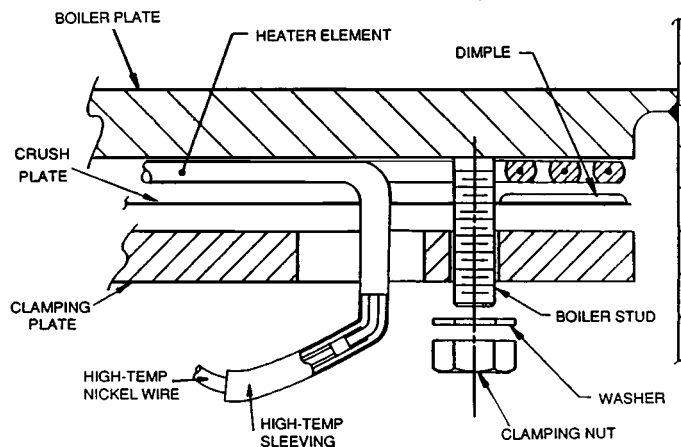

Figure 3-3. Heater Element Assembly
- d Lower the entire heating unit (heater element, clamping plate and heater shield, see Figure 3-3) until it is off the mounting studs.